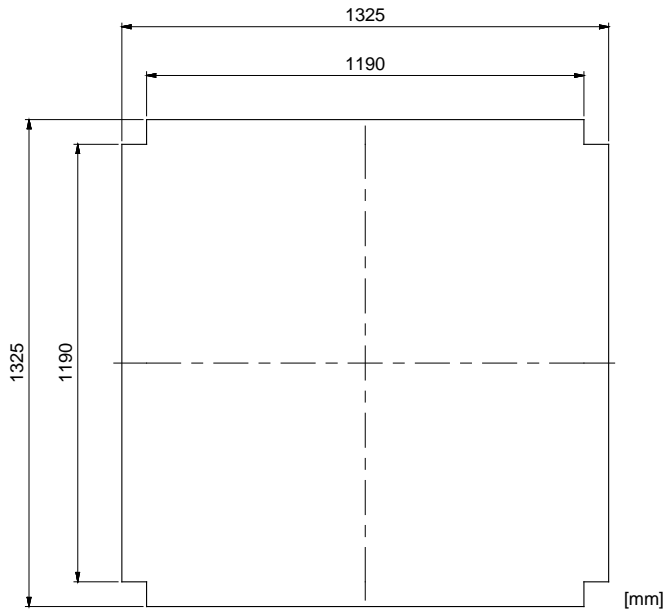
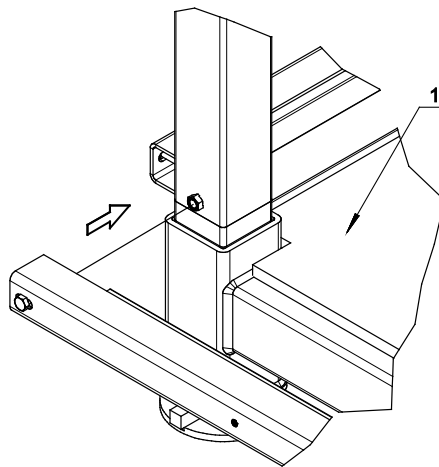

Figure 21. Dimension of the Bottom Plywood Board.
Figure 22. Example of placement of Formwork Support.
5.1 Check that all four Corner Posts are inserted correctly into the Bottom Frame. Cut a piece of 18 mm Formwork Plywood, complying with EN 636-3, to the format as shown in Figure 21 and place in the centre of the Bottom Frame. Bolt the eight Formwork Supports to the welding nuts. Use the bolts attached to the Formwork Support, see Figure 22. At this step it is not necessary to tighten the bolts.